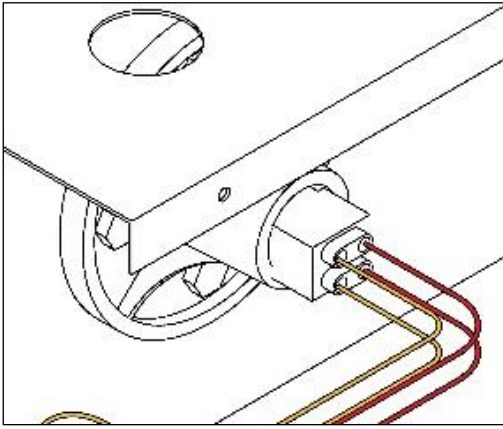

Figure 13
5.) Disconnect lamp plugs from lamps that will be replaced. See Figures 13 and 14.
11.) Reconnect lamp plugs. See Figures 13 and 14.